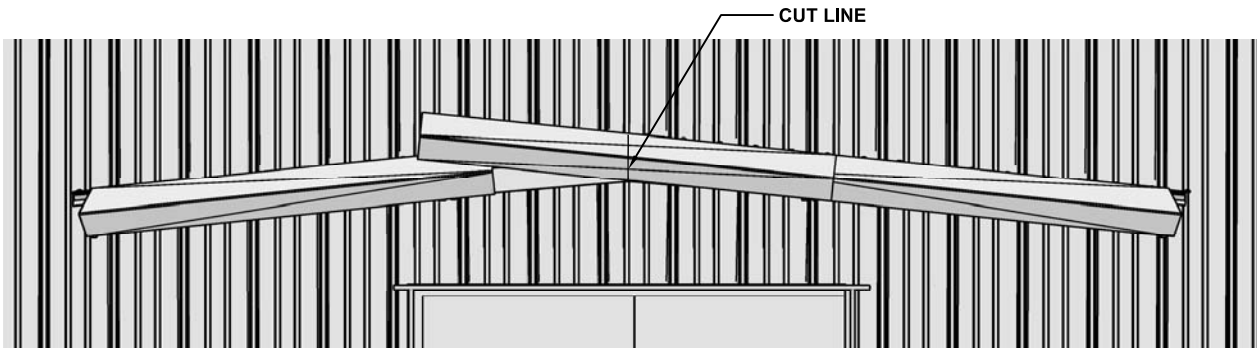

FIGURE 20
5. Install the Center Rake Trim (straight cut on both ends), line up with the center of the roof sheet and press the right side on to the tape sealant. (**Figure 20**) Attach the right side with Stitch Screws (F-051-00) 6" on center.